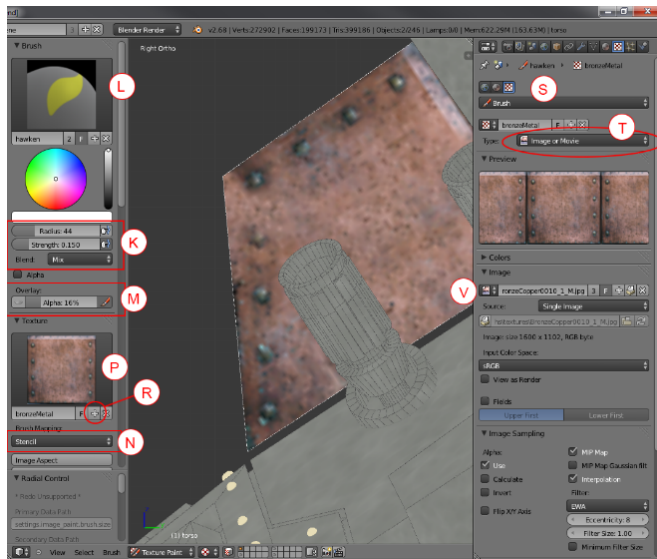

FIG. 07 – PAINTING THE TEXTURES
To paint the textures (Fig. 07) you can adjust the (K) Radius and Strength to get the (L) Brush results you want. I leave the (K) Blend mode on Mix. Also, I set the (M) Overlay to a small Alpha Value (around 20%) so it is easy for me to see the model through the texture I'm using. Notice that the (N) Brush Mapping is set to Stencil. This will enable a texture overlay that you will use to paint with in the 3D View.